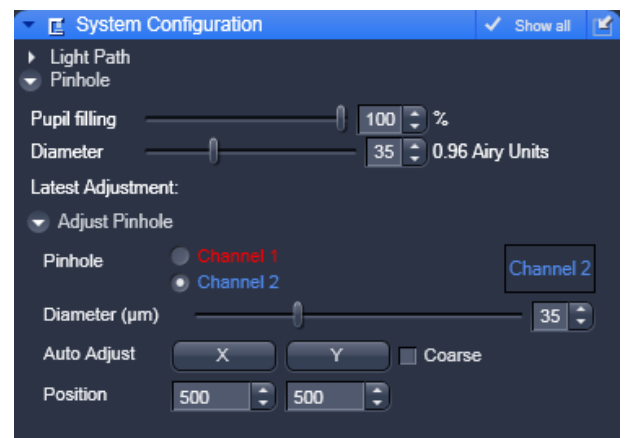

Fig. 36 Pinhole adjustment panel
- Open the **Adjust** Pinhole window (Fig. 36). Press the tab again to close the window.
- <Open the **Pinhole Adjust** window (Fig. 36).